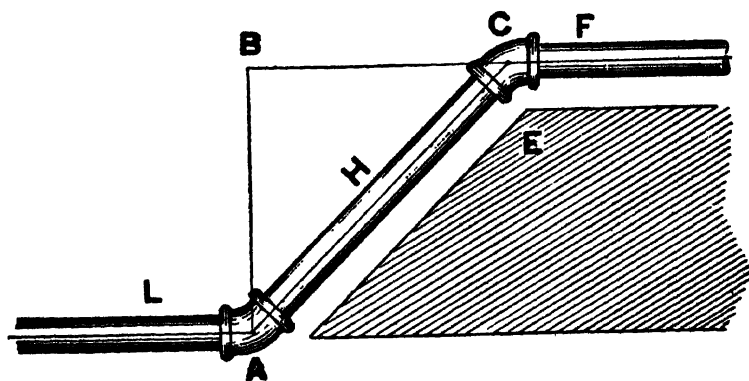

FIG. 5,498.—Pipe line connected with 45° elbows illustrating offsets and method of finding length of connecting pipe H.
**Example.**—If in fig. 5,498, the distance between pipe lines L and F be 20 ins. (offset AB) what length of pipe H, is required to connect with the 45° elbows A and C?